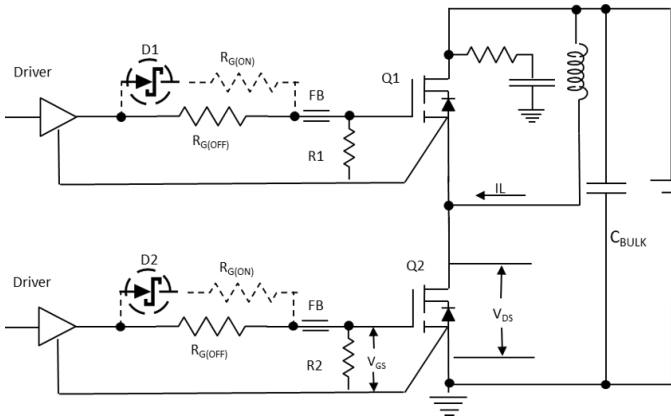

Figure 15. Switching Time Test Circuit
**Simplified Half-bridge Schematic ( See also on Figure 15 )**